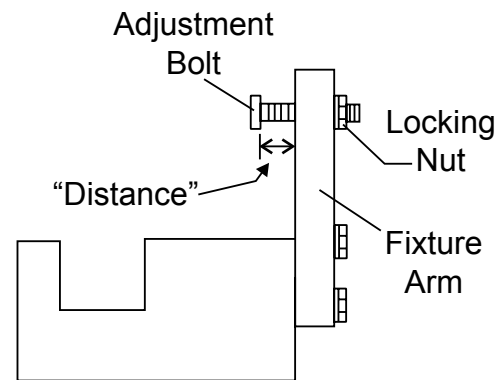

Figure 33. Trowel Arm Adjustment Tool (Side View)
1. Locate the trowel arm adjustment tool (Figure 33) P/N 9177.